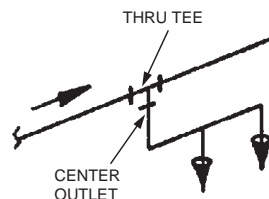

FIGURE 15
4. Maximum nozzles allowed downstream of the center outlet of a thru tee = 2. See Figure 15.